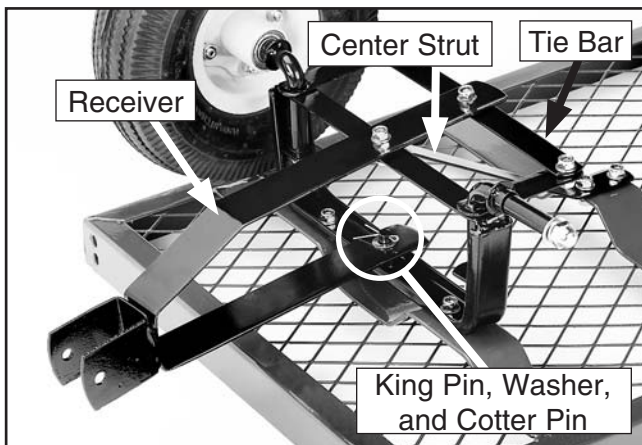

Figure 3. Steering axle.
3. Connect the receiver and the center strut to the steering axle with the M8-1.25 x 25 hex bolt, 8mm flat washer, and M8-1.25 locking nut (**Figure 3**).
4. Place the 10mm flat washer onto the king pin and retain it with the cotter pin (**Figure 3**).
5. Secure the tie bar to the steering axle and fasten the axle assembly to the frame with four M8-1.25 x 18 hex bolts, 8mm flat washers, and M8-1.25 locking nuts (**Figure 3**).
6. Slide two wheels onto the axles, and secure each in place with a 12mm flat washer, lock washer, and the acorn nut (**Figure 3**).